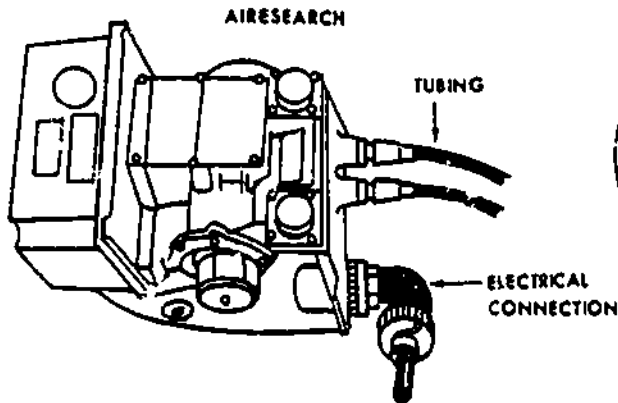

Figure 8.
Refer to figures 8 and 9 to complete the following statement.
1. The transducers shown in figures 8 and 9